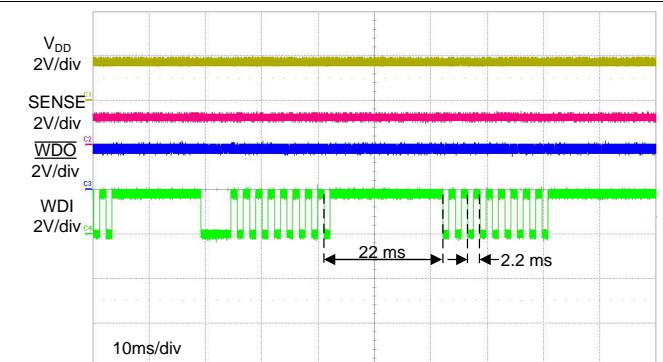

图 39. Window Watchdog Timing
In this application, the window watchdog timing options are based on the PWM signal that is provided to the TPS3850-Q1. A window watchdog setting must be chosen such that the falling edge of the PWM signal always falls within the window. A nominal window must be designed with $t_{WDL(max)}$ less than 5 ms and $t_{WDU(min)}$ greater than 5 ms. There are several options that satisfy this window option. An external capacitor can be placed on the CWD pin and calculated to have a sufficient window. Another option is to use one of the factory-programmed timing options. An additional advantage of choosing one of the factory-programmed options is the ability to reduce the number of components required, thus reducing overall BOM cost. Leaving the CWD pin unconnected (NC) with SET0 = 0 and SET1 = 1 produces a $t_{WDL(max)}$ of 2.22 ms and a $t_{WDU(min)}$ of 23.375 ms; see 图 39.